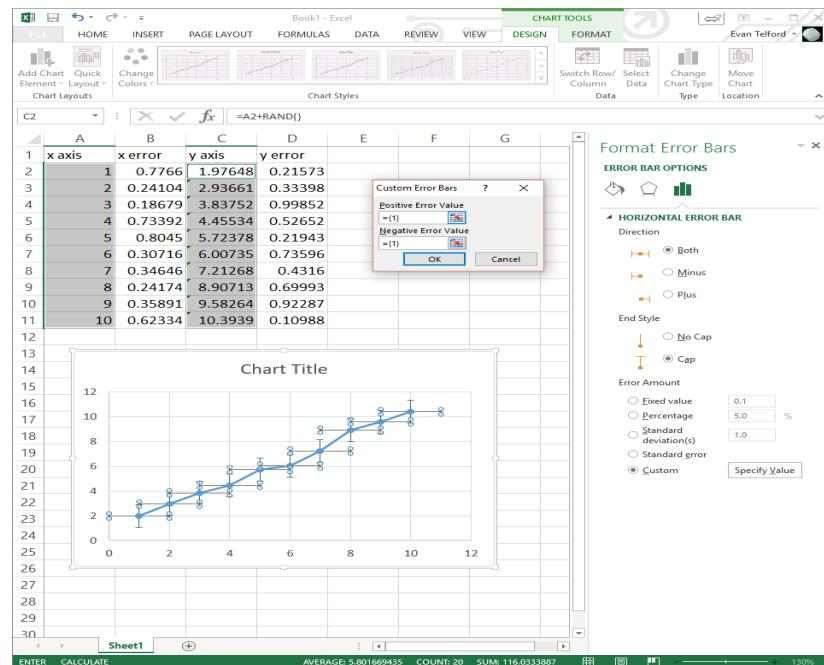

Figure 2: Using your own data set to create x and y error bars in excel.
6. It should now prompt you for positive error values and negative error values. Delete "{1}" from the two boxes, and select your error bars using the cursor. Your chart will now have the correct error bars (see figure 2).